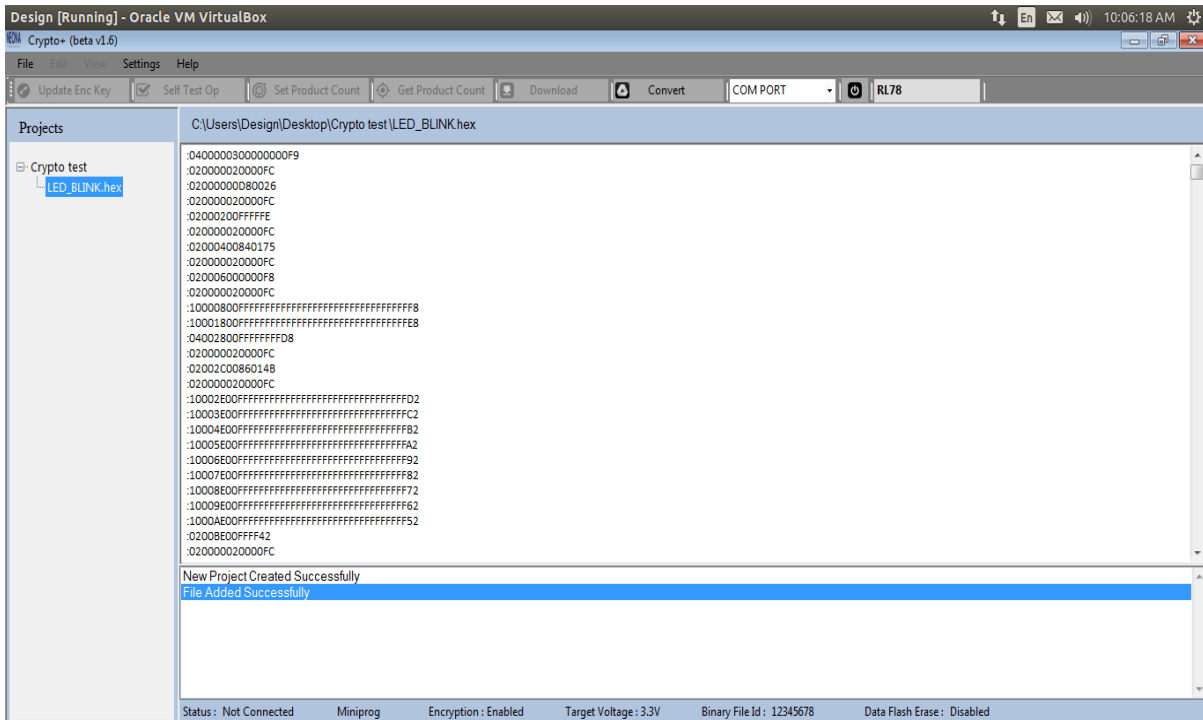

Figure 2.23
STEP 4: The added files will be listed in the tree-view and a message ‘**File Added Successfully**’ is displayed in the text view as shown in figure 2.23.